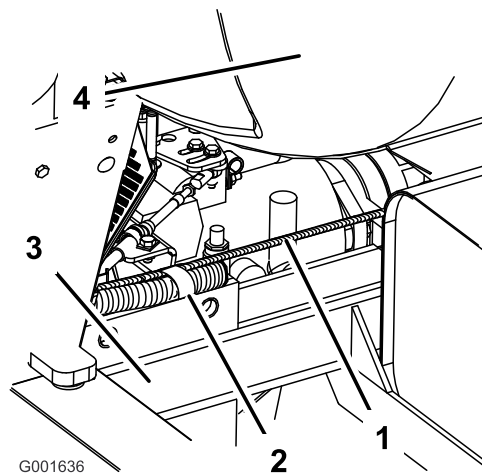

Figure 13
Note: The harness needs to follow the left side of the frame towards the rear and above the frame behind the seat (Figure 13).
2. Install the harness into the R-clamp located behind the drivers seat and on top of the frame (Figure 13).